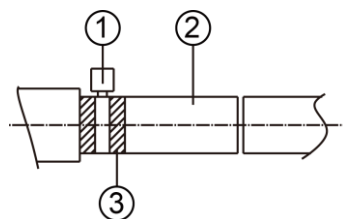
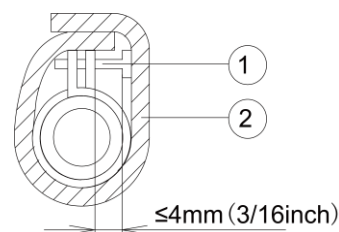

Fig 4.3.2
Fig 4.3.3
- (1) Insert the drain hose into the drain hole and tighten it with tape, as shown in Fig 4.3.2.
- (2) Tighten the pipe clamp, with the distance between screw nut and hose smaller than 4mm (1/8 in).
- ①. Metal clamp(accessory)
- ②. Drain hose(accessory)
- (3) Use sealing plate to insulate the pipe clamp and hose, as shown in Fig 4.3.3.
- ②. Thermal sponge(accessory)